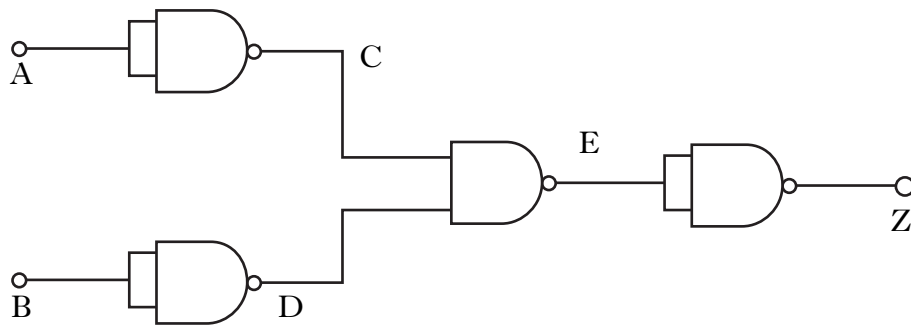

Figure Q7
7. Figure Q7 shows a logic circuit for a digital electronic system.
(a) Complete the truth table below for the logic circuit given in Figure Q7.
(c) State the single logic gate that could be used to replace the four NAND gates in Figure Q7.